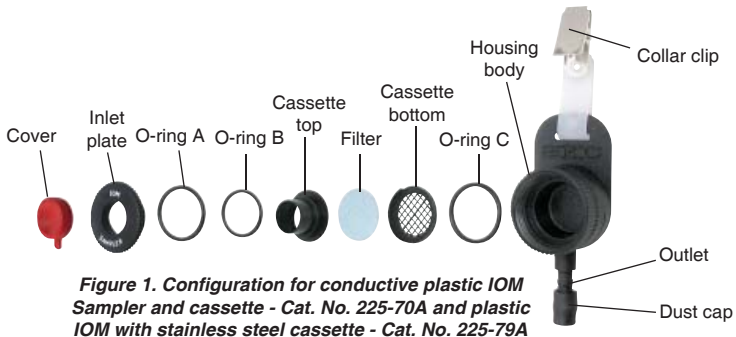

Figure 1. Configuration for conductive plastic IOM Sampler and cassette - Cat. No. 225-70A and plastic IOM with stainless steel cassette - Cat. No. 225-79A
1. Disassemble the IOM Sampler (Figures 1, 2, and 3).
- Ensure the O-rings are positioned correctly (Figures 1, 2, and 3).